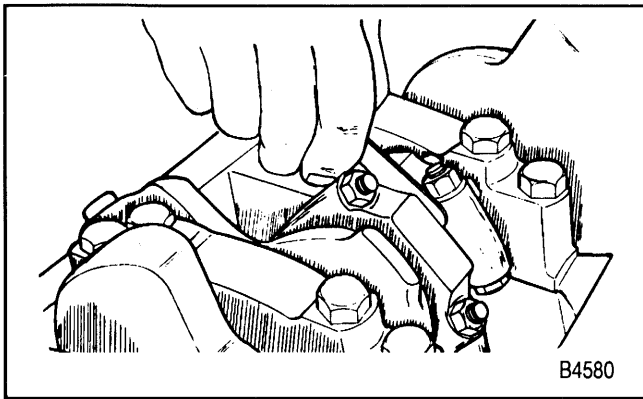

Figure 34—Measuring Connecting Rod Side Clearance
- Connecting rod side clearance. Use a feeler gage between the connecting rods (figure 34). The correct clearance is 0.006-0.014 inch.